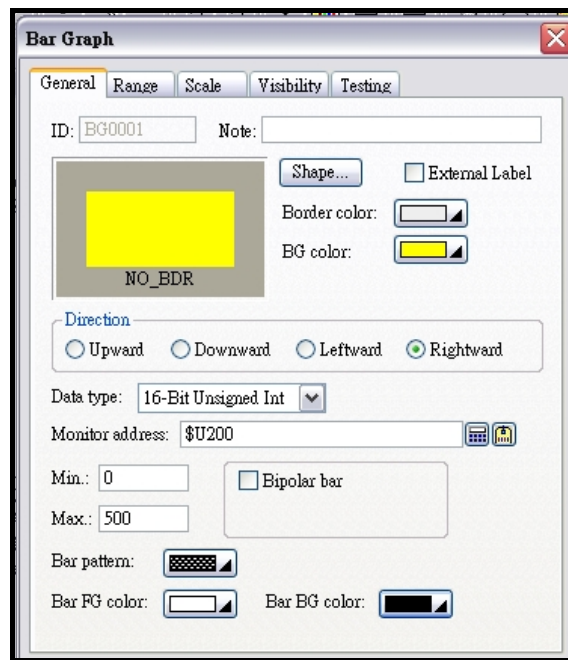

Figure 2-34 Object properties dialogue \_bar graph
**Bar graph** : The HMI reads value from specified registers of PLC to transform to bar graphs on the screen. See figure 2-34 ◦